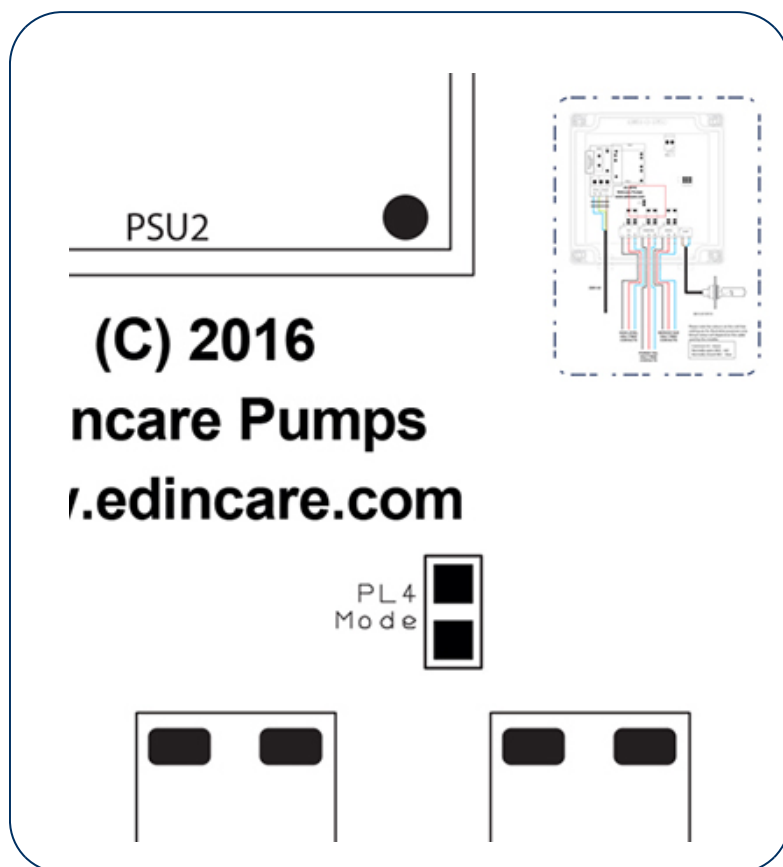

Fig. 15 Jumper settings
1. The PL4 jumper on the circuit board is set to normally closed to operate the float switch, if you need to change this to normally open please reconnect the jumper. As shown in fig.15.